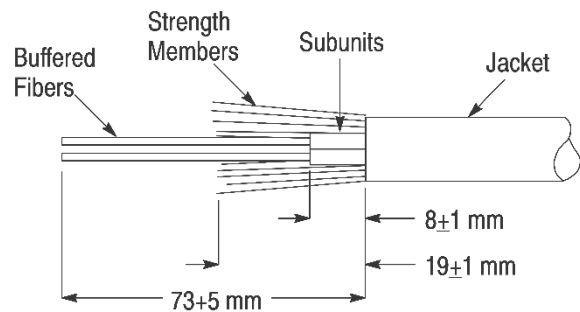

Figure 2
2. Using the cable jacket strip tool, strip the jacket to the dimension shown in Figure 2 (below), exposing the subunits, strength members, and buffered fibers. Save the stripped piece of cable jacket for later use in Section 5.2, Step 4.
4. Using the cable jacket strip tool, strip the jacket to the dimension shown in Figure 2 (below), exposing the subunits, strength members, and buffered fibers. Save the stripped piece of cable jacket for later use in Section 5.2, Step 4.